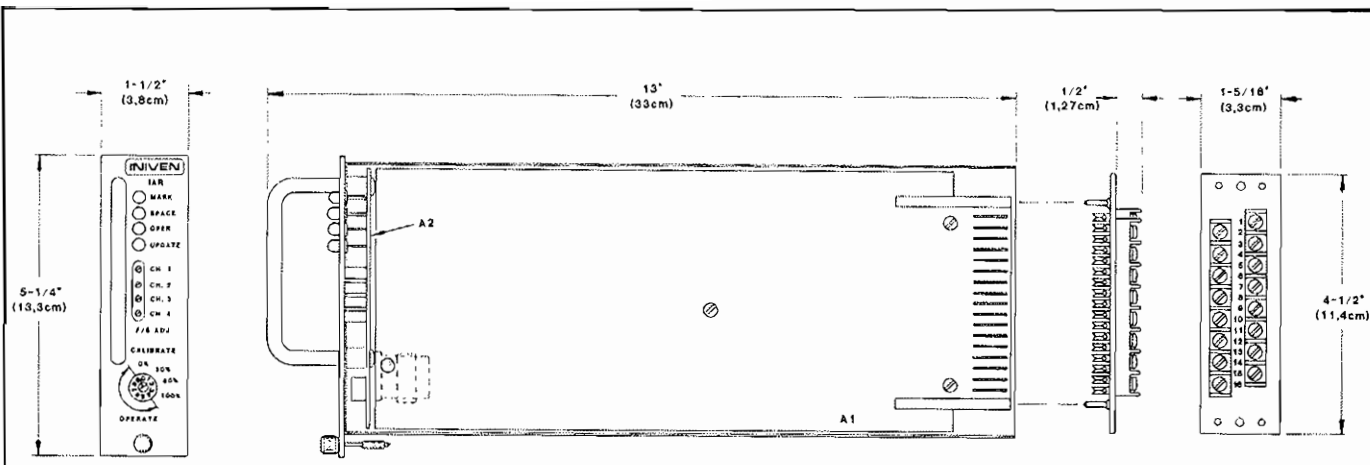

Figure 5. IAR Analog Receiver—Dimensions and Component Identification
The following parts list is included to facilitate maintenance of the IAR Analog Receiver. All parts are listed in order of their reference designators as applicable. Figure 5 depicts the parts for the major components of the IAR. Figures 6 and 7 exhibit the parts for printed circuit board assemblies A1 and A2, respectively.
7.1 IAR ANALOG RECEIVER (See Figure 5)